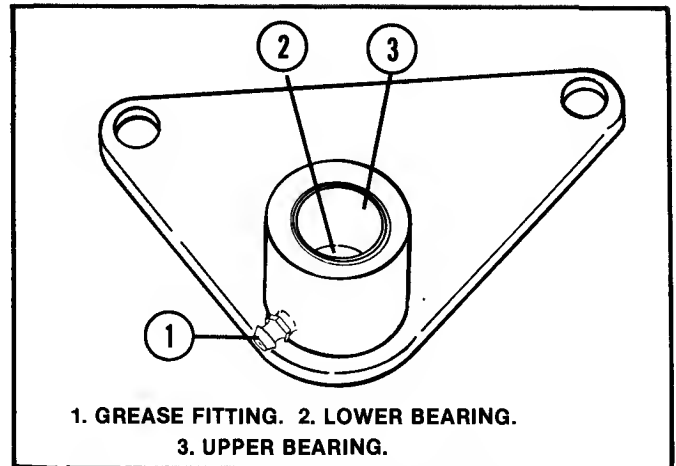

FIG. 2.9 — BELLCRANK BEARINGS IN PLACE
3. Remove old bearings and install new bearings flush with outside surface Fig. 2.9.